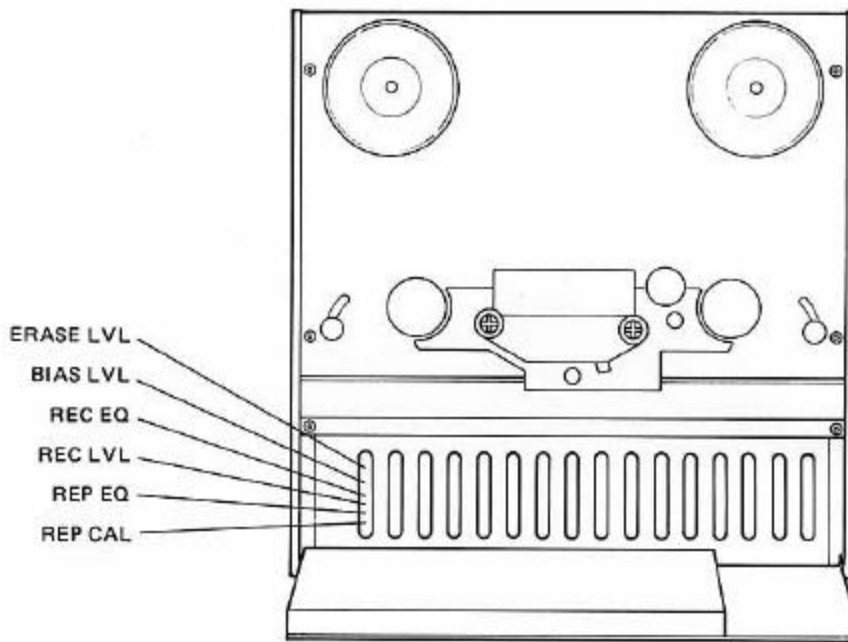

Fig. 6.1
- 3) All 16 meters should indicate 0 dB levels during the reference 1 KHz tone playback. If not, adjust the reproduce amplifier level (REP CAL, Fig.6.1). Access to these adjustments is obtained by swinging down the front panel of the recorder.
- 4) Similarly during playback of the 1 KHz and 10 KHz tones, the meters should all indicate the level specified for the alignment tape. If not, adjust the playback equalization (REP EQ, Fig.6.1)